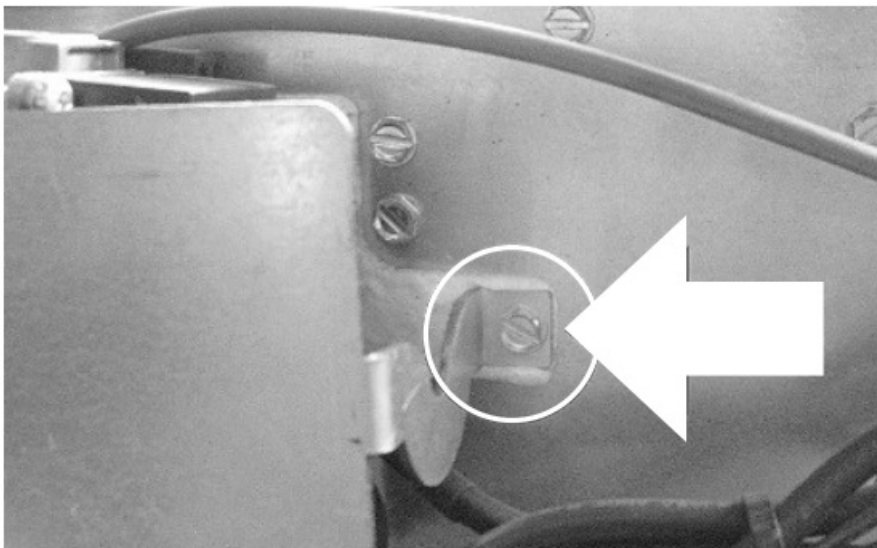

Figure 2
2. Figure 2 shows the screw on the right underside of the firebox which secures the front of the valve bracket, remove this screw. Keep this screw in a safe place as it will be needed to secure the valve bracket again once the logset burner is installed.